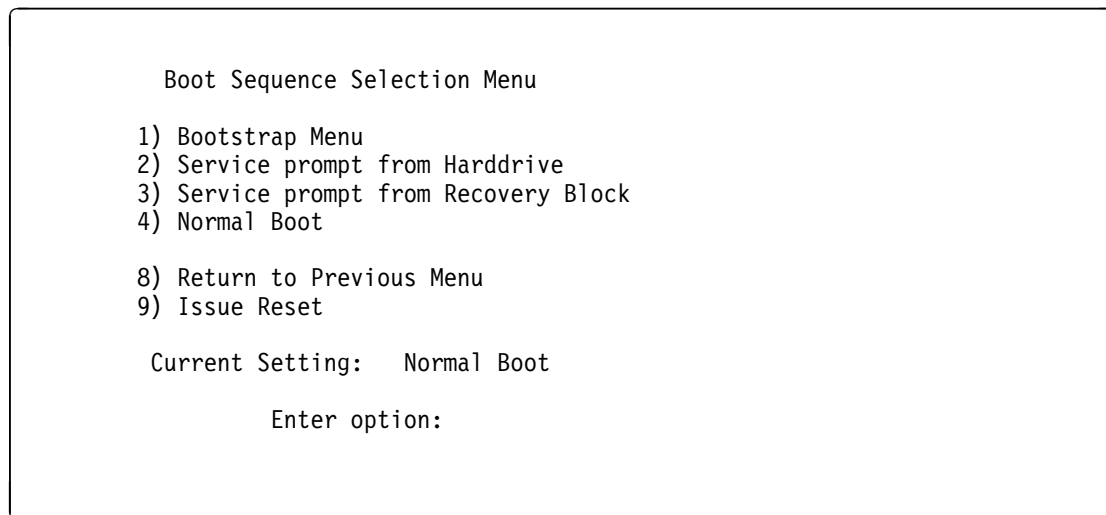

Figure 4-6. Boot Sequence Selection Menu
2. The Boot Sequence Selection Menu is displayed as shown in Figure 4-6.